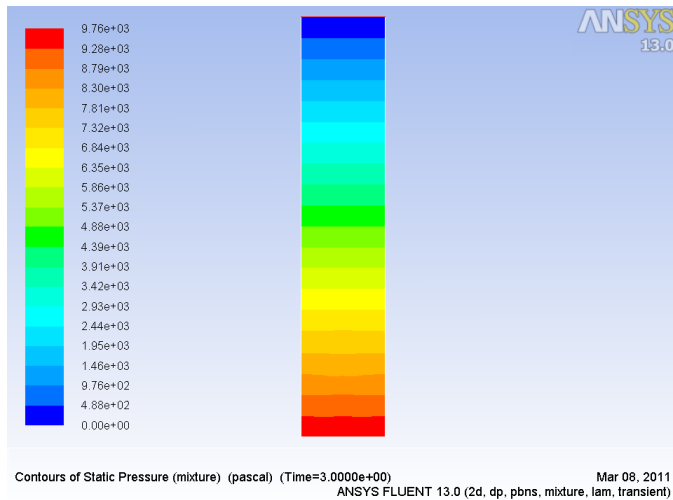

Figure 5: Contours of Static Pressure
4. Display filled contours of static pressure (Figure 5).